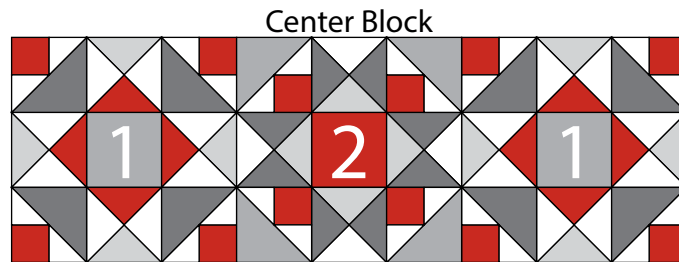

Fig. 7
7. Sew (1) Block One square to each side of (1) Block Two square to make the 54 ½" x 18 ½" Center Block (Fig. 7).